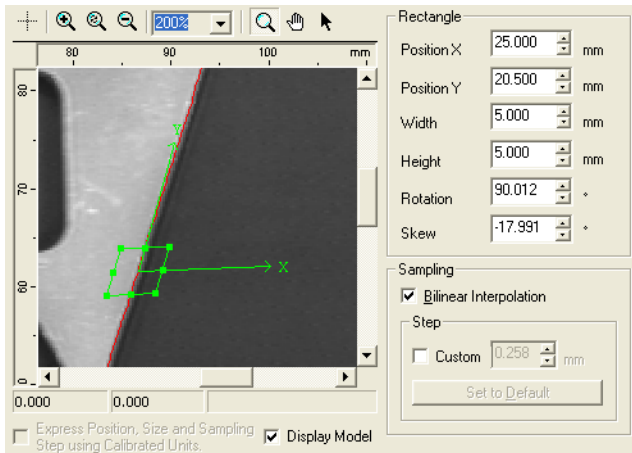

Figure 78 Adjusting Rectangle for the Hook's Right Edge
8. Place the Rectangle on the part as shown in Figure 78. Click the arrow of the X-axis and drag it to adjust the rotation to 90 degrees. Click the center of the Rectangle and drag it into position. Since the edge to be located is not orthogonal to the tool's X-axis, adjust the skew by clicking and dragging the arrow of the Y-axis to make it parallel to the right edge of the part. Fine-tune the position with the text boxes if needed. Once the Rectangle is placed, click **Execute**.